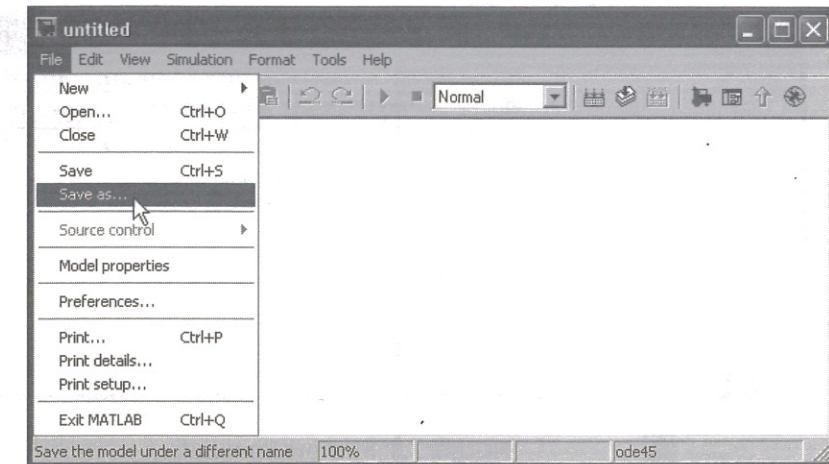

FIGURE 3.1: Menu selection
**Using Menus.** The Simulink user interface employs pull-down menus located on a menu bar at the top of the Simulink model window. To facilitate discussion of the various menu choices, we will use the convention: **Menu bar choice:Pull-down menu choice**. For example, choosing “File” followed by “Save As” (as shown in Figure 3.1) will be written **File:Save As**.